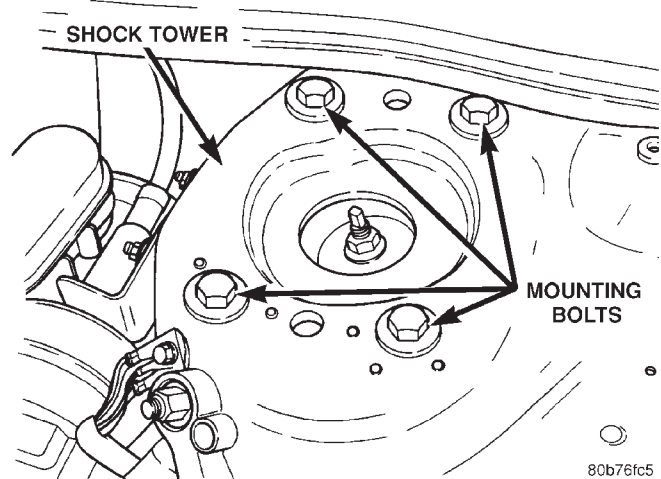

Fig. 4 Shock Assembly Mounting Bolts
(1) Open the hood and mark the position of all four shock assembly mounting bolts on the shock tower (Fig. 4) on the side of the vehicle requiring front camber adjustment.